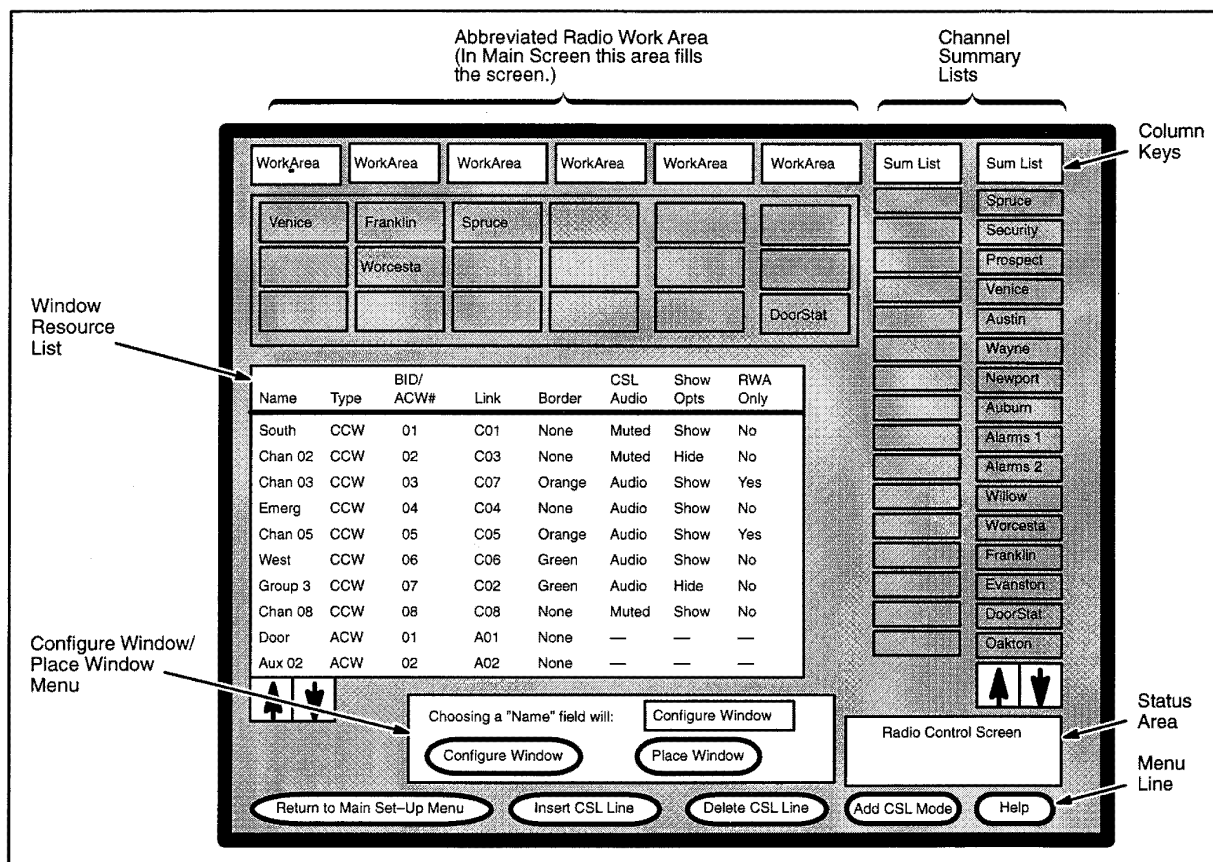

Figure 22. Place Window Mode: Window Resource List Screen
Use the **Place Window** mode of the Window Resource List Screen to configure the layout of the Radio Work Area and Channel Summary List(s) in the Main Screen. The Radio Work Area is the place in the Main Screen where the Control Windows are displayed. The Channel Summary List is a list in the Main Screen that holds the names of the Control Windows in the set-up. Since you can change this layout during normal operation, use this mode primarily for the initial or default layout (see Figure 22).
The keys that designate the associated column as a CSL or part of the RWA are at the top of the RWA Template (see Figure 22). Complete the following steps to define which columns are part of the RWA and which are part of the CSL:
Step 1. Choose a Control Window from the Name column of the Window Resource List (see Figure 22). The Control Window is highlighted in green.